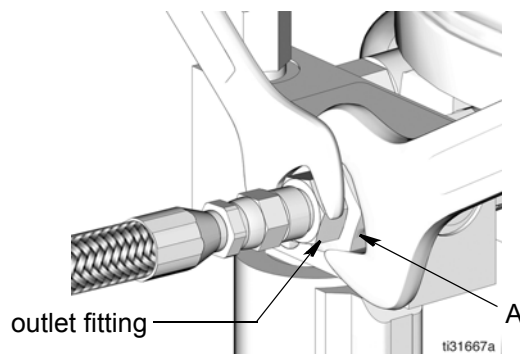

FIG. 24
1. Loosen the pump outlet fitting (FIG. 24).
**NOTE:** When loosening pump outlet fitting, do NOT loosen banjo bolt (A).